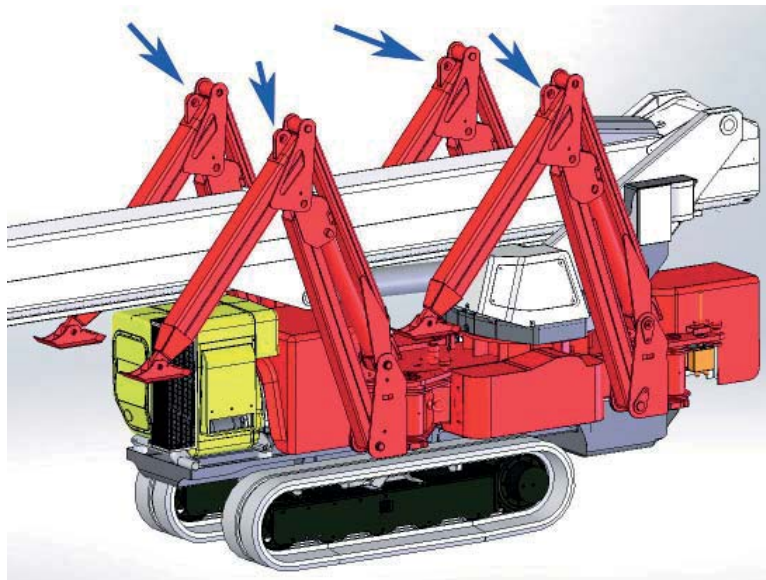

Fig. 2.14
- using a 4-arms harness of proper capacity and length, fix the hooks in the holes on top of the stabilizers (Fig. 2.14 and 2.14a).